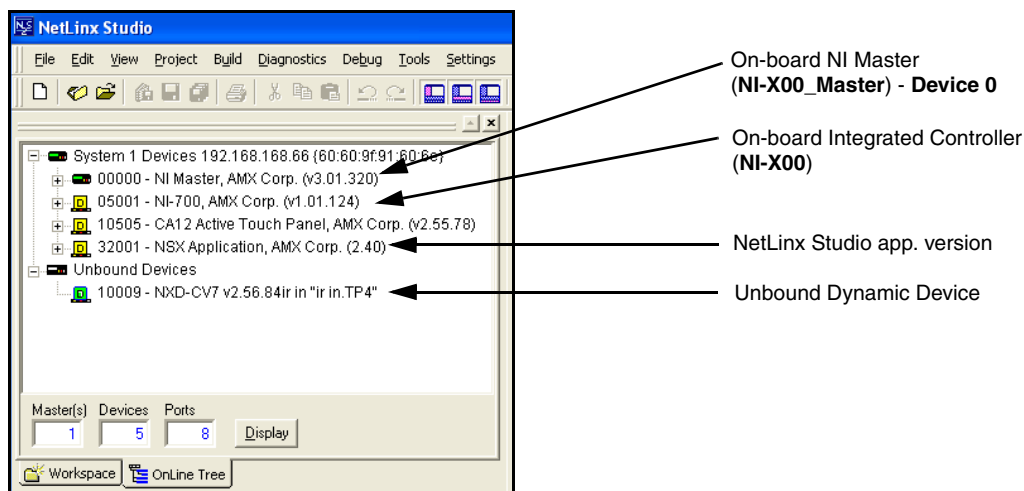

FIG. 33 Sample NetLinx Workspace window (showing SEPERATE NI-Master and Controller)
2. After Studio has establish a connection to the target Master, click the **OnLine Tree** tab of the *Workspace* window to view the devices on the System. The default *System* value is one (1).
4. After the Communication Verification dialog window verifies active communication between the PC and the NI unit, verify the Integrated Controller (**NI-X00 or NI-X000**) appears in the **OnLine Tree** tab (FIG. 33) of the Workspace window (*ex: NI-4000 or NI-700*). This entry is different than the NI Master which uses a device value of 00000 (see below):